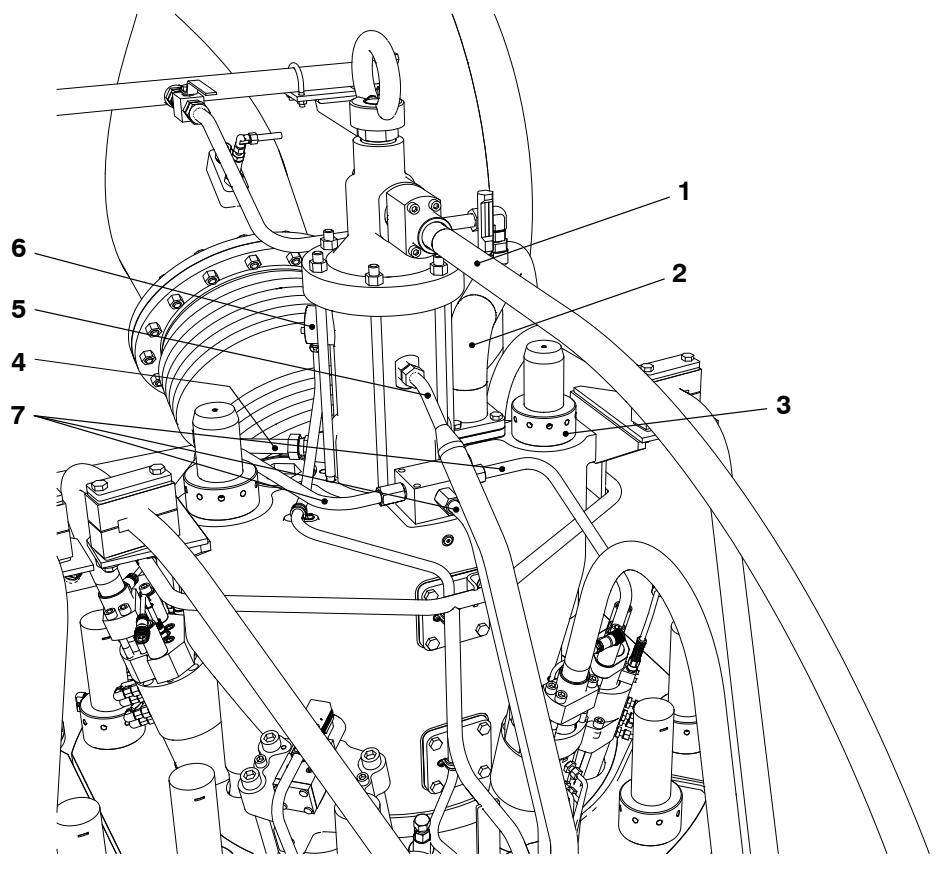

Fig. 7
- 1) Connect the electrical connector to the valve stroke sensor (6, Fig. 7).
- 4) Connect the air inlet pipe (4) to the air spring supply.
- 5) Install the three HP pilot fuel pipes (7), refer to 8790-1.
- 6) Connect the oil supply pipe (5) to the valve guide.
- 7) Connect the cooling water pipe (2).